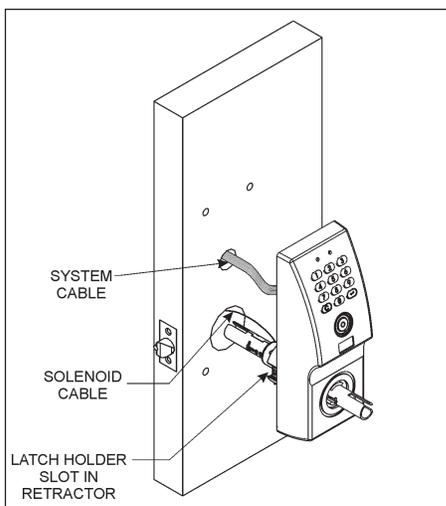

Figure 10 - Model 45xx shown
2. Refer to Figure 10. Make sure that the latch holder slot in the chassis assembly faces the front edge of the door.